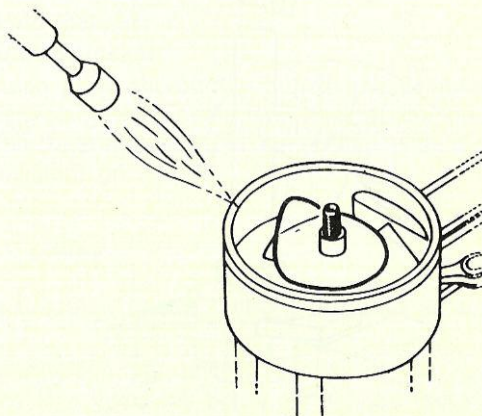

fig. 18
- using soft clamps, hold one end of crankshaft in vise, cover upper oil seal with a large diameter washer to protect it against the flame and heat casting around bearing to approx. 80 °C as shown in fig. 18